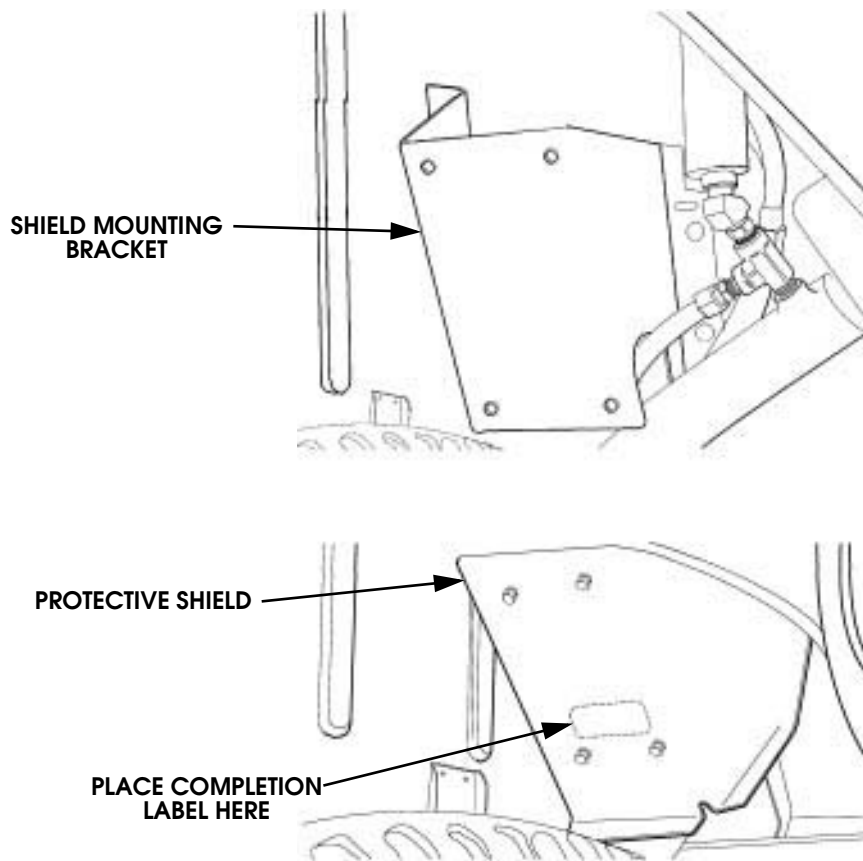

Figure 5
13. Install shield mounting bracket (Figure 5). Secure bracket with original #10 screws, flatwashers removed in Step 3, and new lockwashers from kit.
15. Affix campaign completion label to protective shield (Figure 5). Then cover label with clear plastic overlay (provided with label).